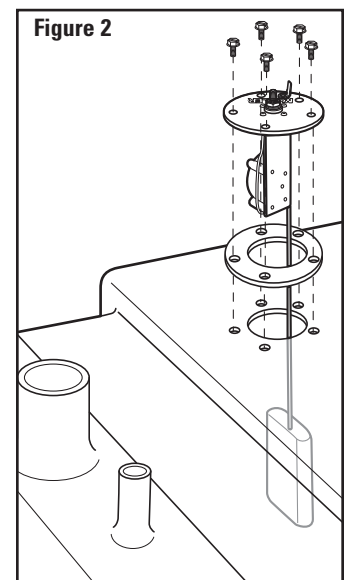

Figure 2
6. **Align gasket properly** with the mounting plate and tank. NOTE: The gasket's 5-hole screw pattern only fits one way (see Figure 2.)